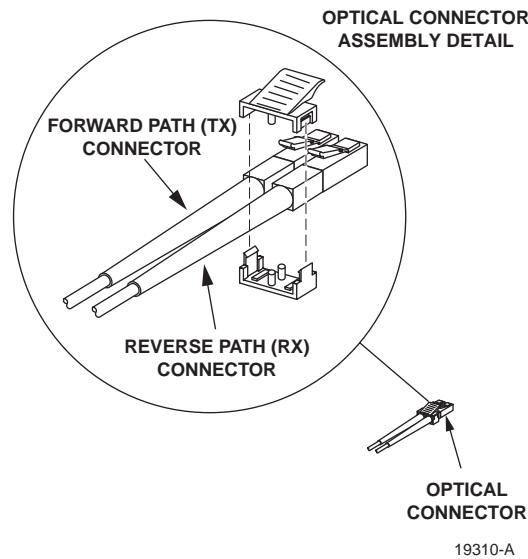

Figure 4. Terminate Optical Fiber
3. Terminate each optical fiber with a field-installable LC type fiber optic connector as shown in Figure 4. Follow the instructions provided by the connector manufacturer for installing the connector.
6. Use the plastic joiner provided with the LC connectors to join the SDR PCIx Host card forward and reverse path connectors together (see Figure 4). Make sure the forward path and reverse path connectors are oriented as shown.